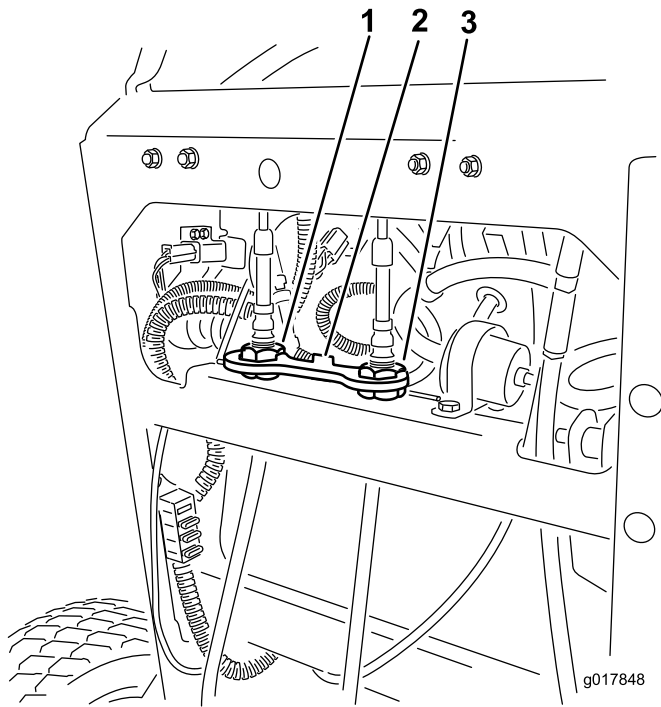

Figure 57
4. Lift and remove the cable lock securing the cable adjusting nuts (Figure 57).
5. Rotate the right cable adjustment to position the right motion control in the center of the control panel neutral lock slot (Figure 57).
- 10. Install the cable lock onto the cable adjusting nuts to secure the adjustment (Figure 57).